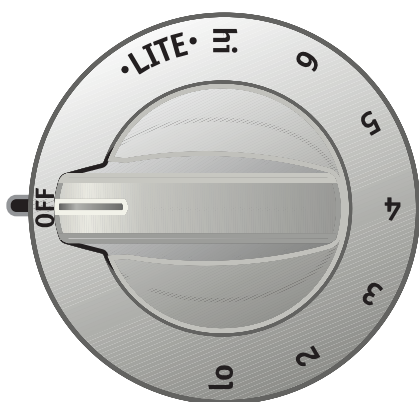

Figure 1
4. To replace Burner Heads & Caps, match the letters located under center of Burner Caps with the letters located inside Burner Head (See Figure 3). Place all Burner Heads & Caps on the cooktop while carefully aligning the Electrodes into slots or holes of the Burner Heads (Figure 1). Note: The Burner Heads should sit flat on Cooktop Burner Skirts.
3. Release the knob and rotate to the LITE position (see figure 1). Note: All four electronic surface ignitors will spark at the same time. However, only the burner you are turning on will ignite.